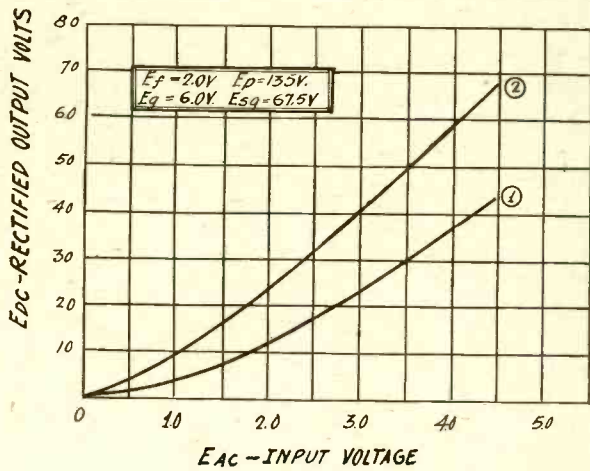

Fig. 1
Fig. 1 gives two curves which show the relationship between the rectified output voltage of a 232 screen grid tube for different values of AC input voltages on the grid. The various voltages applied to the elements are given on the graph. Curve (1) is for a load resistance of 75,000 ohms and curve (2) for a load resistance of 200,000 ohms. In both cases there is a resistance of 100,000 ohms in the screen circuit.